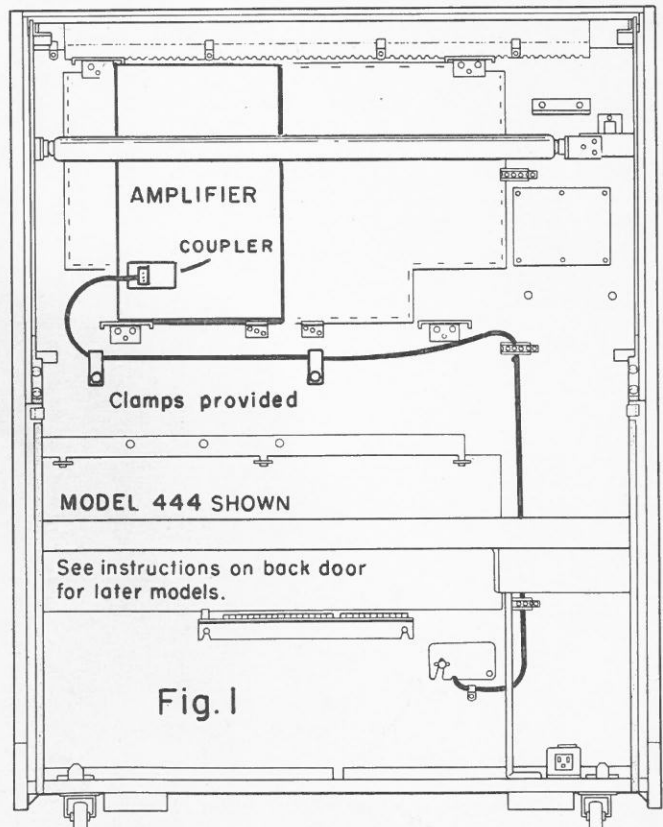

Fig. 1
2. Make 3 wire connection at coupler terminal and dress cable as shown in Fig. 1 for Model 442 (160) or Fig. 2 for Model 443 (100).